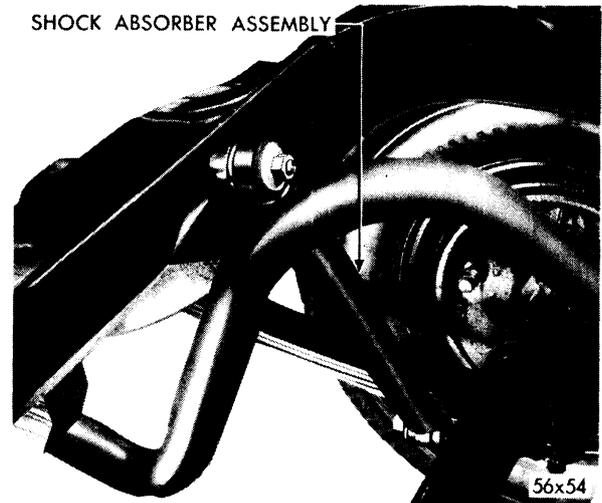

Fig. 15—Rear Shock Absorber Installed
- (4) Slide cup washer (concave side down) over piston rod and down on bushing. Install nut, and tighten to 35 foot-pounds torque, or until the upper and lower concave washers bottom against steel sleeve.
12. REMOVAL AND INSTALLATION OF REAR SHOCK ABSORBERS (Fig. 15)